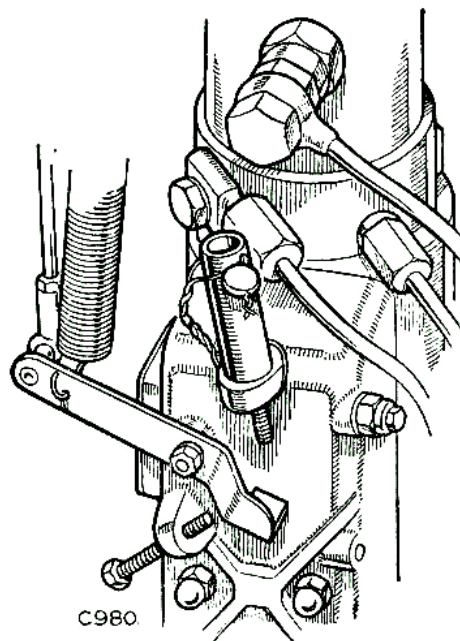

Fig. M-30—Control screws adjusted and sealed.
- (e) When maximum engine speed of 3,650 r.p.m. ± 20 has been obtained, tighten locknut, replace adjusting screw collar, wire and seal screw collar as shown at Fig. M-30.